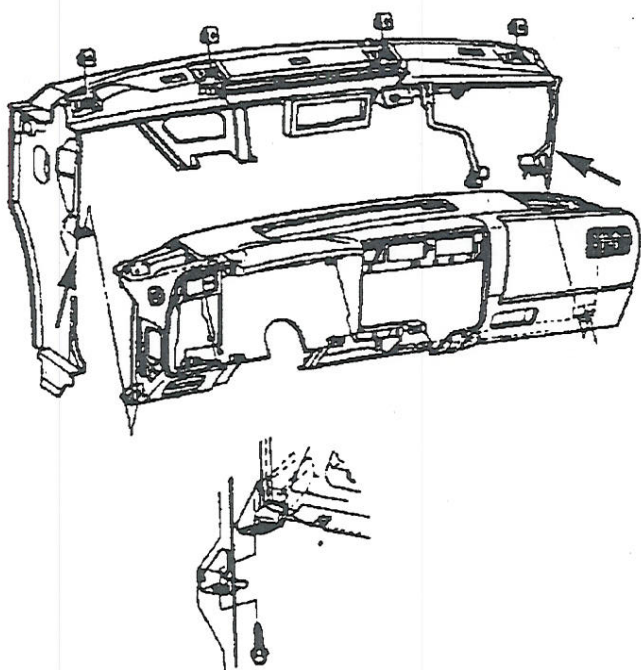

Fig. 24 Instrument panel pivot bolt removal. 1997 S & T Series & Bravada
11. Remove lefthand and righthand instrument panel pivot bolts as illustrated in Fig. 24.